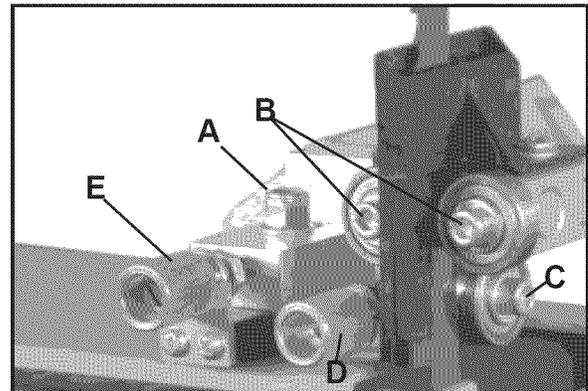

Figure 14
a. To adjust the lower blade guides, first loosen the lock nut (A-Fig.14) then move the guide carrier by the micro-adjusting knob (E-Fig.14) until both bearing guides are approximately $1/16$ " behind the gullets of the Bandsaw blade and tighten the lock nut (A-Fig.14).
b. Next set the bearing guides to within $1/32$ " of the blade by releasing the guide adjusting screw (B-Fig. 14).
c. Adjust the thrust bearing to be just clear of the back of the blade by unlocking the guide adjusting screw (C-Fig.14), and turning the micro-adjusting knob (D-Fig.14).
d. When the correct adjustments are reached, lock the bearing guides in position with the guide adjusting screws (B&C-Fig.14).